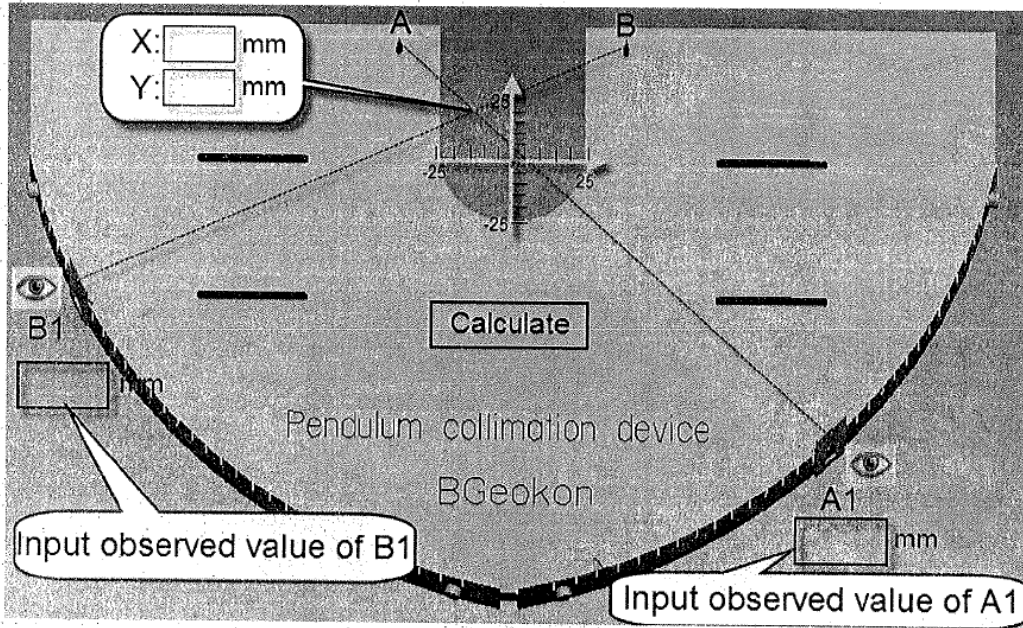

Figure 3 Showing the Collimation Process
2. Referring to Figure 3 move the sliding sight, A1, so that when looking through the hole in the sight the pendulum wire lines up with front sight A. Read and record the reading on the steel rule to the nearest millimeter.